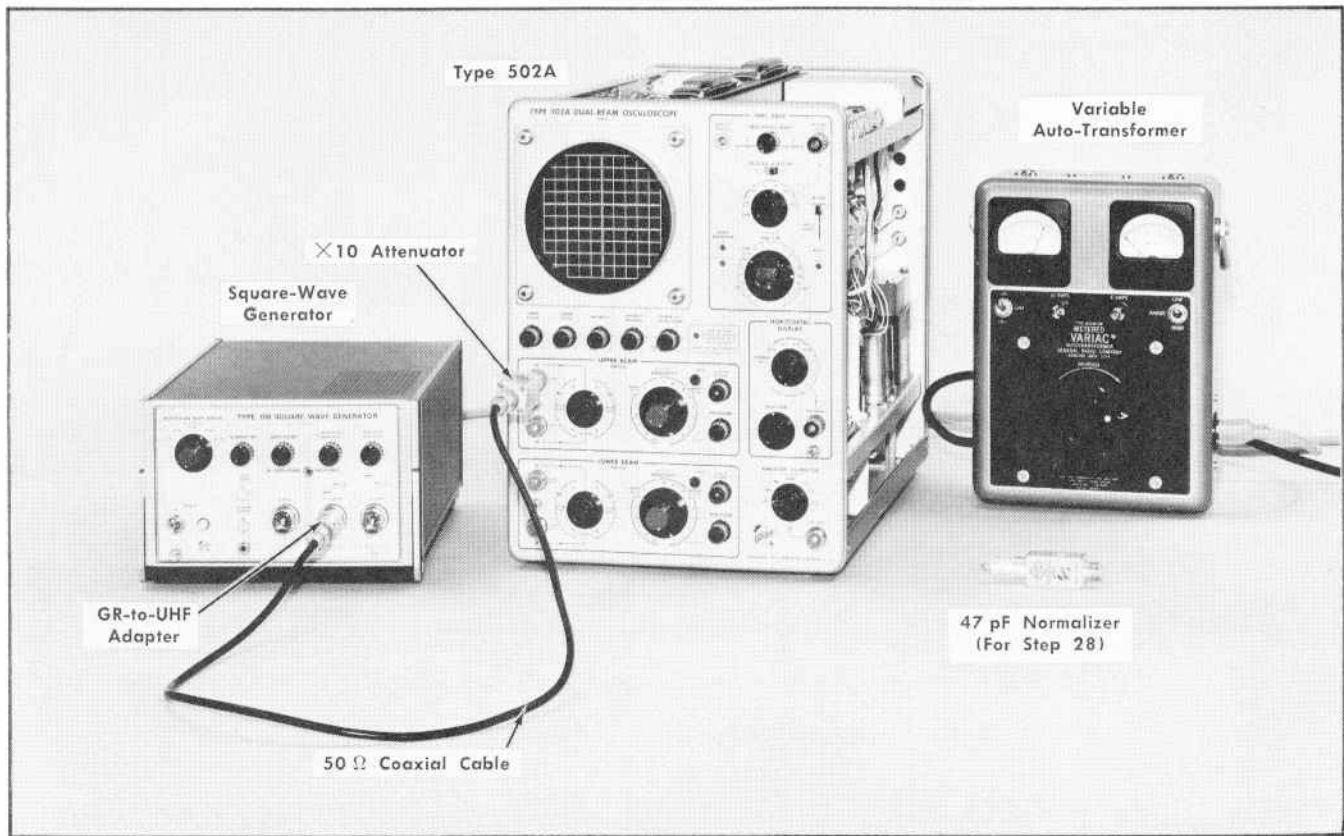

Fig. 6-22. Test equipment setup for adjusting HF compensation (step 27) and input compensation (step 28).
27. Adjust High Frequency Compensation ①
- Connect the equipment as shown in Fig. 6-22.